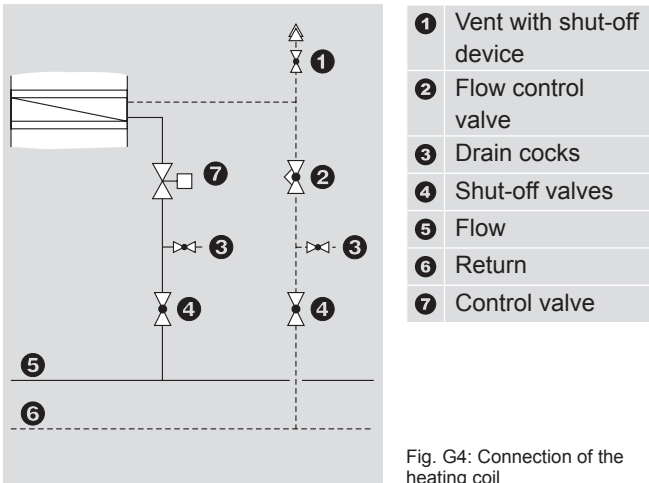

Fig. G4: Connection of the heating coil
- Connect the heating coils in accordance with Fig. G4. Depending on local circumstances it has to be checked whether compensators for the supply and return lines for compensation of the linear expansion and/or articulated connections are required for the units.